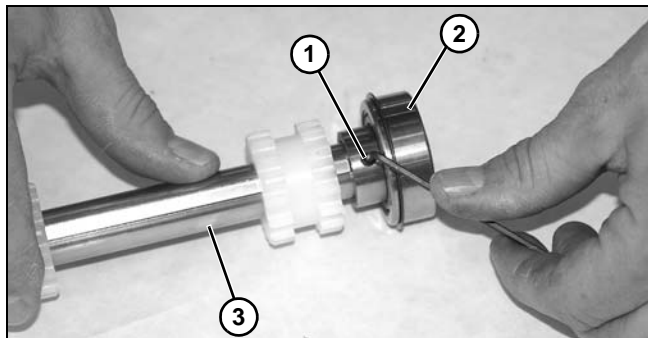

Figure 129
21. Loosen set screws (**Figure 129, item 1**) on driveshaft bearing assembly (**Figure 129, item 2**) and remove from driveshaft (**Figure 129, item 3**).